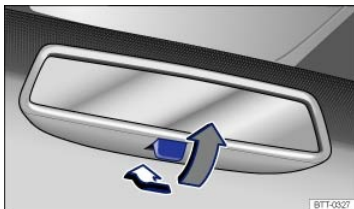

Fig. 97 Manually adjustable inside mirror.
- To adjust to non-glare visibility, move the lever so that it points down ⇒ Fig. 97.